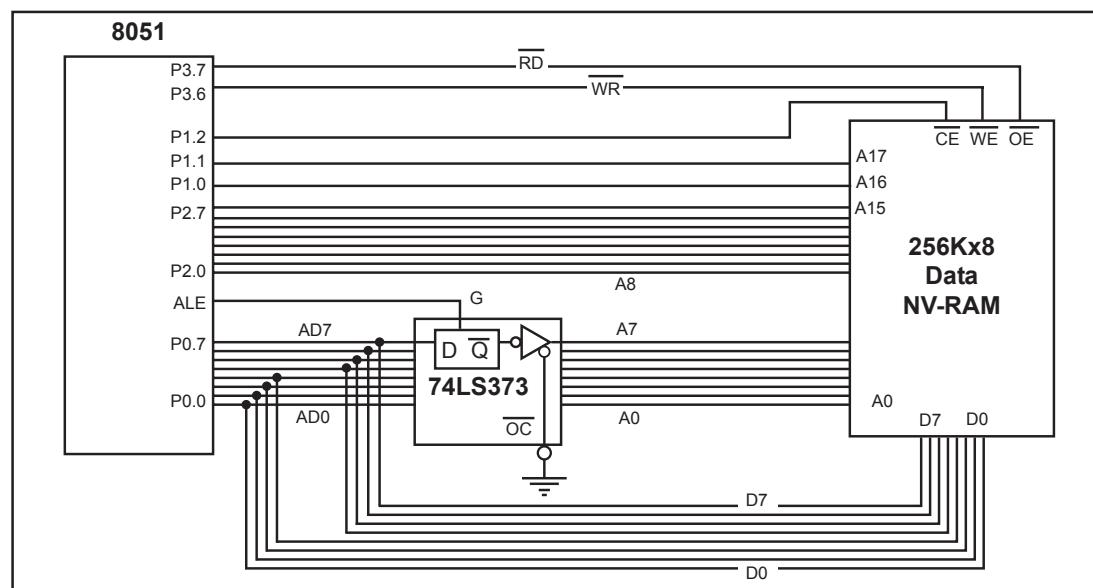

Figure 12. 8051 Accessing 256Kx8 External NV-RAM
In some applications, we need a large amount (256K bytes, for example) of memory to store data. However, the 8051 can support only 64K bytes of external data memory since DPTR is 16-bit. To solve this problem, we connect A0–A15 of the 8051 directly to the external memory's A0–A15 pins and use some of the P1 pins to access the 64K-byte blocks inside the single 256Kx8 memory chip. This is shown in Example 8 and illustrated in Figure 12.
- (a) The 256Kx8 NV-RAM has 18 address pins (A0–A17) and 8 data lines. As shown in Figure 12, A0–A15 go directly to the memory chip while A16 and A17 are controlled by P1.0 and P1.1, respectively. Also notice that chip select of external RAM is connected to P1.2 of the 8051.